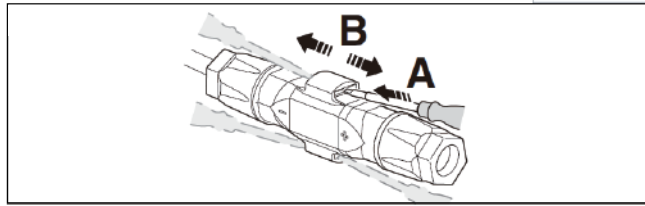

Figure 5-14
- 1). Insert the screwdriver into one of the four openings(Figure 5-14, A)
- 2). Leave the screwdriver in the opening. Pull the two connectors apart(Figure 5-14, B).